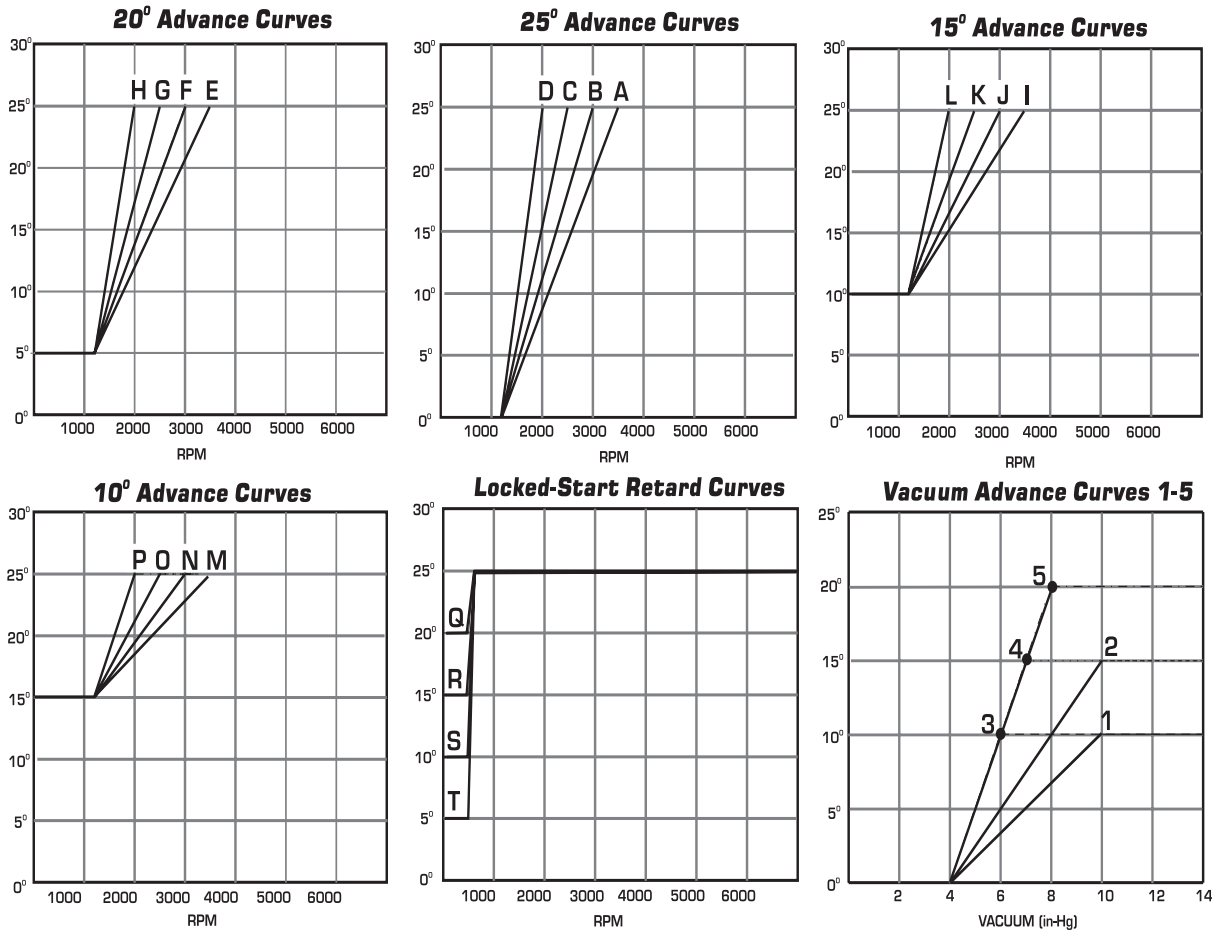

Figure 3 Available Timing Curves.
Obviously a full technical explanation of correct ignition timing would be very complicated. The best way to arrive at a suitable ignition curve for your engine is to use the Ignition Timing Factors Chart as a guide and compare it to the Advance Graphs in Figure 3 until a suitable curve is found. When selecting your advance curve, use detonation (engine ping) as an indicator of too much advance, and a decrease in power as an indicator of too little advance. Also consider how the engine cranks and starts. Too much advance can cause an engine to crank slow or even kick back. Here are a couple of suggestions.
**Vacuum Advance:** The vacuum advance will advance the timing under part throttle conditions when the engine is not under a heavy load. This advance is added on to the electronic timing curve as well. The advance will begin as low as 4-in. of vacuum and will max out at 10-in. of vacuum. There is a separate chart in Figure 3 that illustrates the vacuum curve selection.
With the engine running and a timing light connected, adjust the timing to the desired Total Timing. (Example 32° without vacuum advance) Once you've set the total timing, turn the engine off and remove the distributor cap. Set the rotary dials to achieve the desired timing curve (Figure 3 and 4).